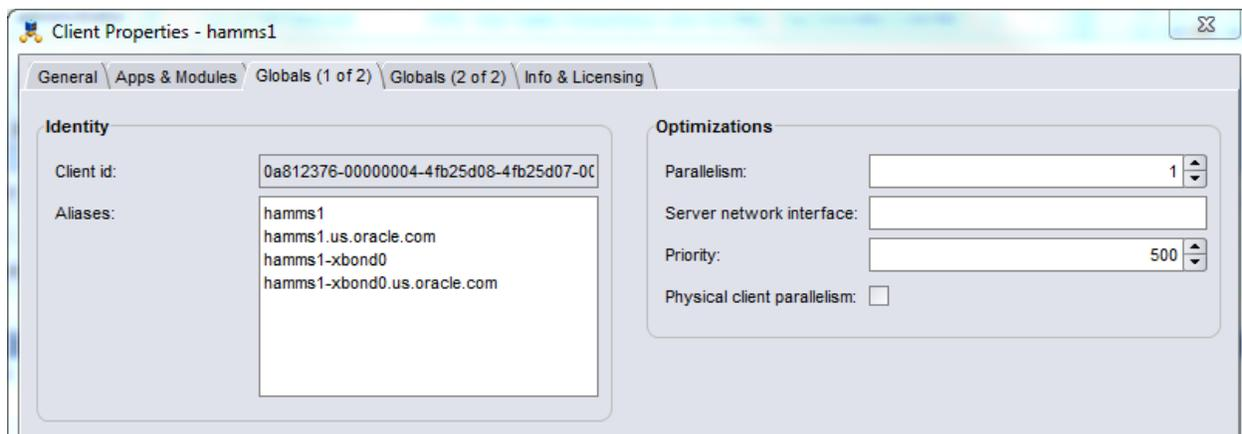

Figure 19: NetWorker Client Properties - Globals (1 of 2) tab, modified for private network.
- b) Ensure Parallelism is set to 1: (See figure 19):